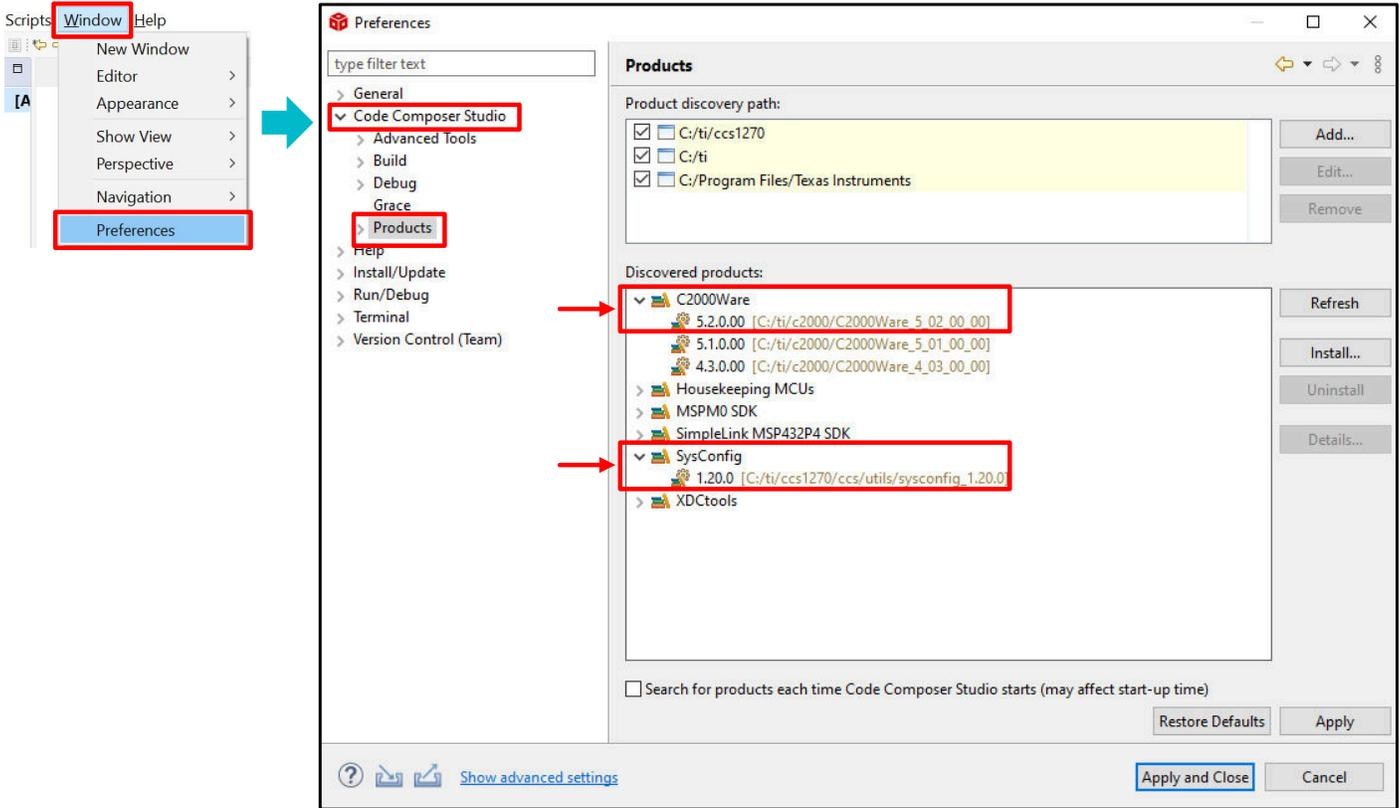

Figure 2-2. Verification of C2000Ware 5.02.0.00 Installation
- b. Make sure that there is "C2000Ware 5.2.0.00" and "SysConfig" (SysConfig should be installed automatically when you install C2000Ware) under the "Discovered products", as is marked in Figure 2-2. If there is no "C2000Ware 5.2.0.00" or "SysConfig" appearing, you may need to click "Refresh" on the right side of the "Preference" window. If still unavailable, check whether the installation is correct. A standalone desktop version of SysConfig can be found at SYSCONFIG System configuration tool.